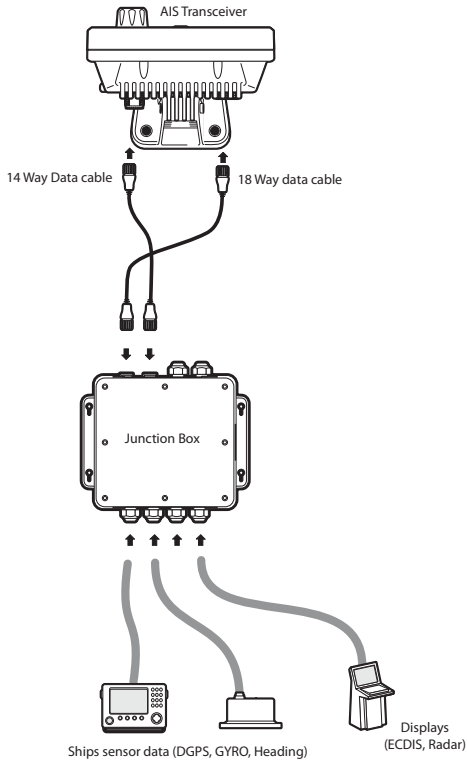

Figure 37 Connecting external equipment
- Figure 37. shows an example of how external equipment could be connected through the junction box accessory.